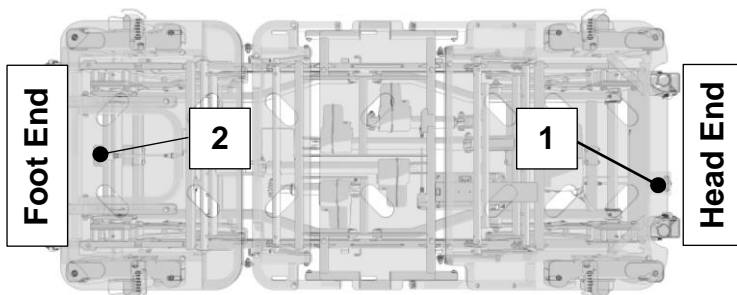

Figure 8.2
3. Proxima has two handset connection ports, one at the foot end, and one at the head end as shown in Figure 8.2. Proxima will be delivered with the patient handset connected to port 1 and the attendant handset connected to port 2.